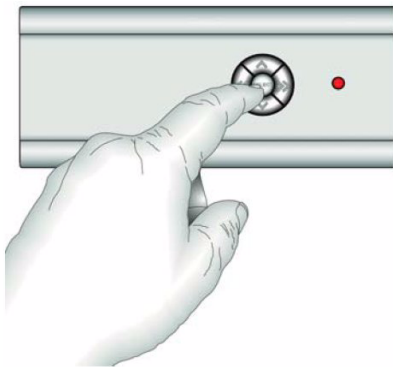

FIG. 65 Press the SELECT button on the front of the Matrix Controller
1. Enter the *Setup* menu from the front of the Matrix Controller, by pressing the **SELECT** button (FIG. 65).